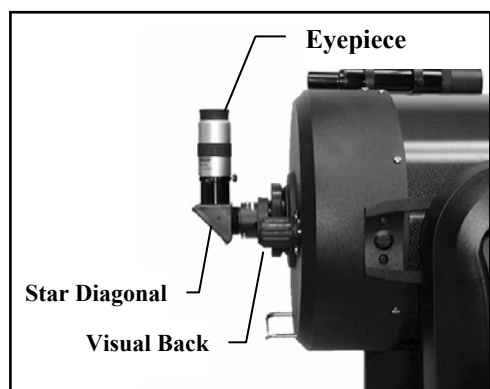

Figure 1-2 – 8", 9.25" and 11" Rear Cell
2. Place the knurled slip ring on the visual back over the threads on the rear cell (Fig 1-2).